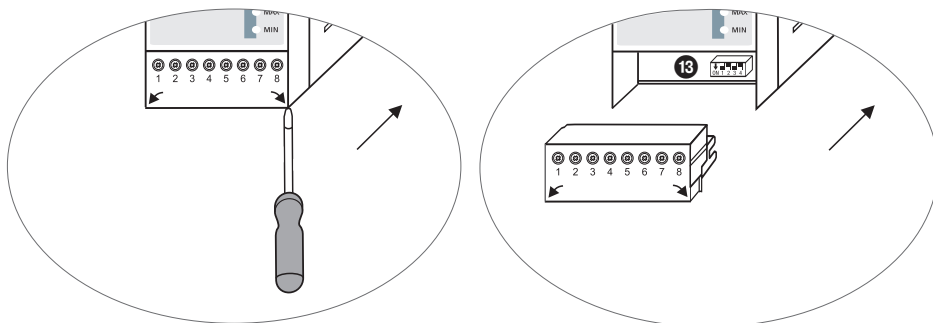

Fig. 6
- Remove the **lower** terminal strip. **Fig. 6**